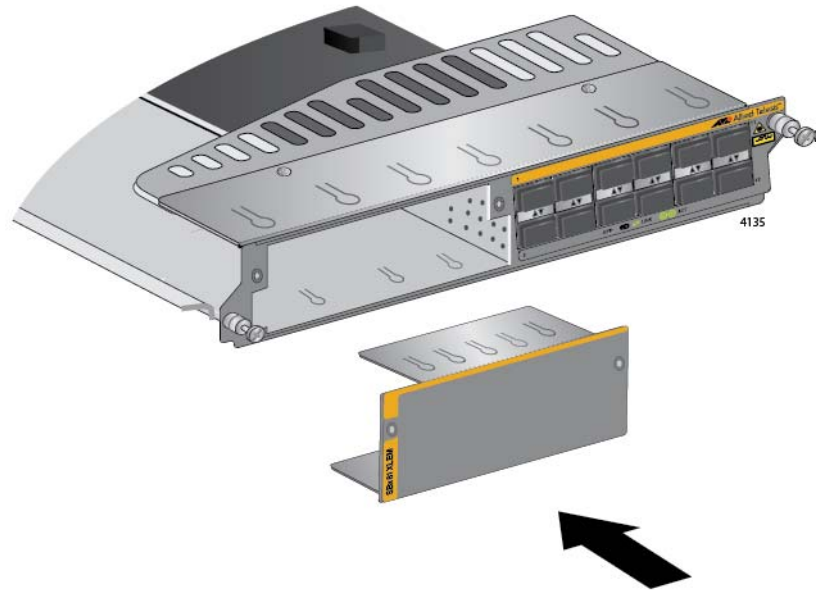

Figure 176. Sliding the Blank Slot Cover into the AT-SBx81XLEM Line Card
9. Slide the blank slot cover that comes with the line card into the slot on the card. Refer to Figure 176 on page 276.